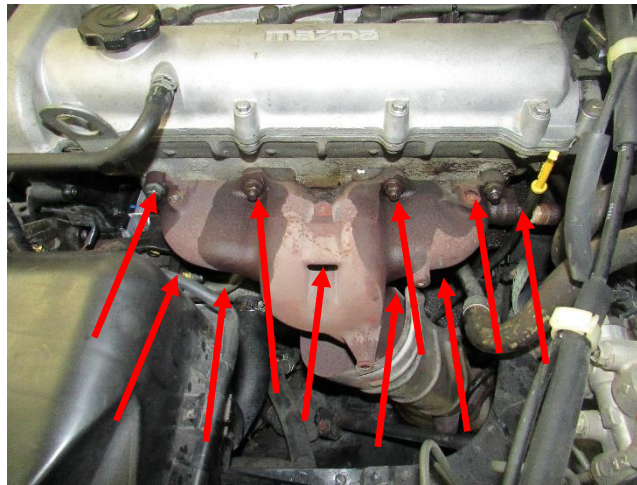

Figure 6
6. Use a 22mm wrench and remove the EGR tube from the OE manifold. Remove the (x9) 14mm head nuts and the OE manifold (**Figure 6**).